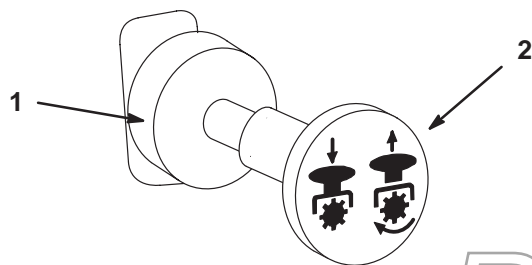

Figure 18
3. Pull out on the power take off (PTO) switch to engage (Fig. 18).
To disengage, push the PTO switch to the Off position (Fig. 18).